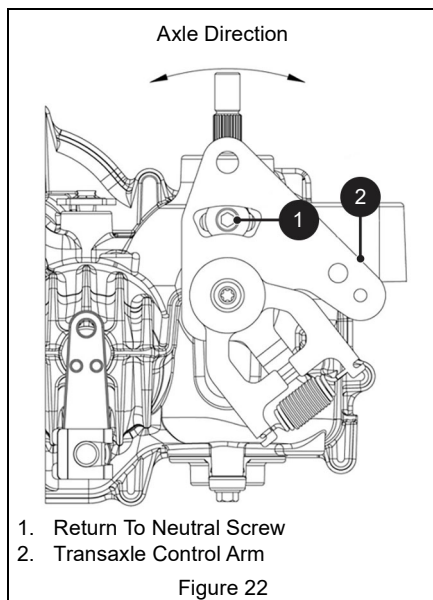

Figure 22
2. Slowly turn transaxle control arm in the opposite direction of hub rotation until hub stops. See Figure 22.